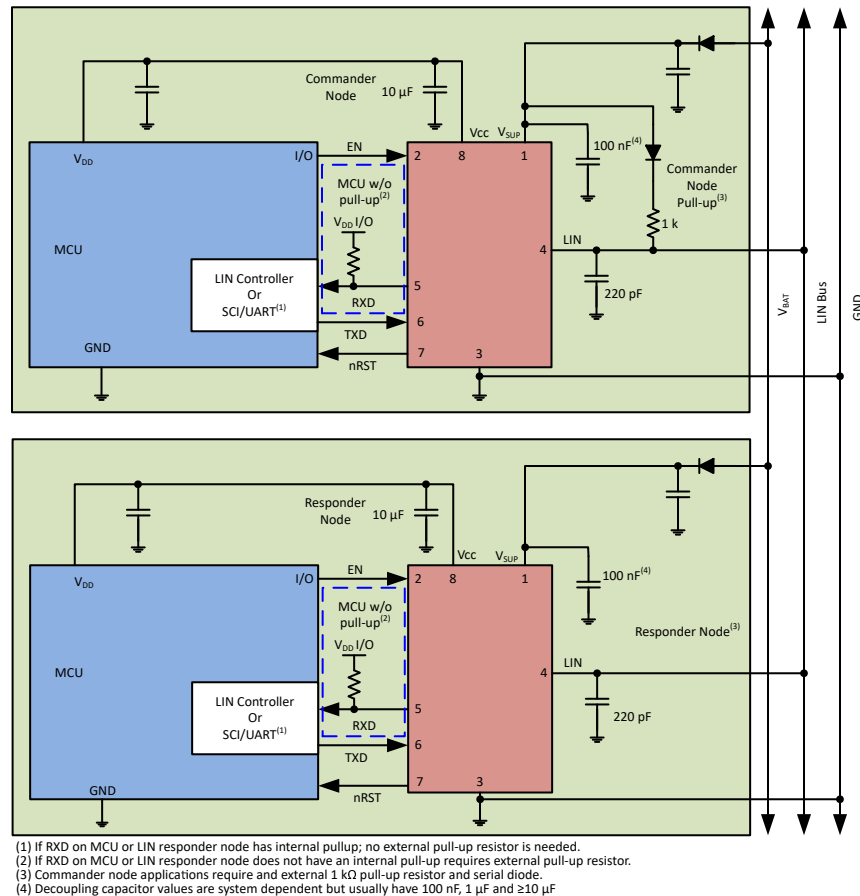

Figure 10-1. Typical LIN Bus
The device comes with an integrated 45 kΩ pull-up resistor and series diode for responder node applications. For commander node applications, an external 1 kΩ pull-up resistor with series blocking diode can be used. Figure 10-1 shows the device being used in both commander and responder node applications.
- **Pin 2 (EN):** EN is an input pin that is used to place the device in a low power sleep mode. If this feature is not used, the pin should be pulled high to the regulated voltage supply of the microprocessor through a series resistor, values between 1 kΩ and 10 kΩ. Additionally, a series resistor may be placed on the pin to limit current on the digital lines in the event of an over-voltage fault.
- **Pin 4 (LIN):** This pin connects to the LIN bus. For responder node applications, a 220 pF capacitor to ground is implemented. For commander node applications, an additional series resistor and blocking diode should be placed between the LIN pin and the V_{SUP} pin. See Figure 10-1